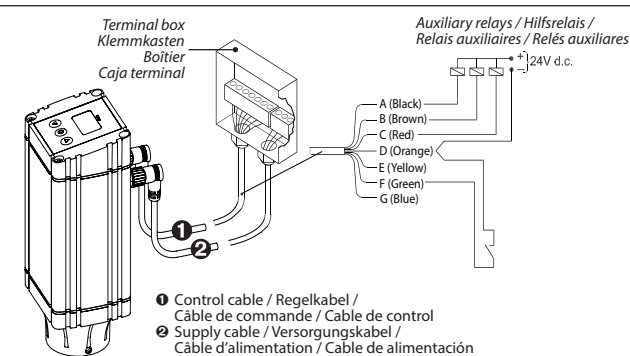

Fig. 8
- Connect digital input signals (fig. 8). See **Parameter list** for configuration of digital input signals.